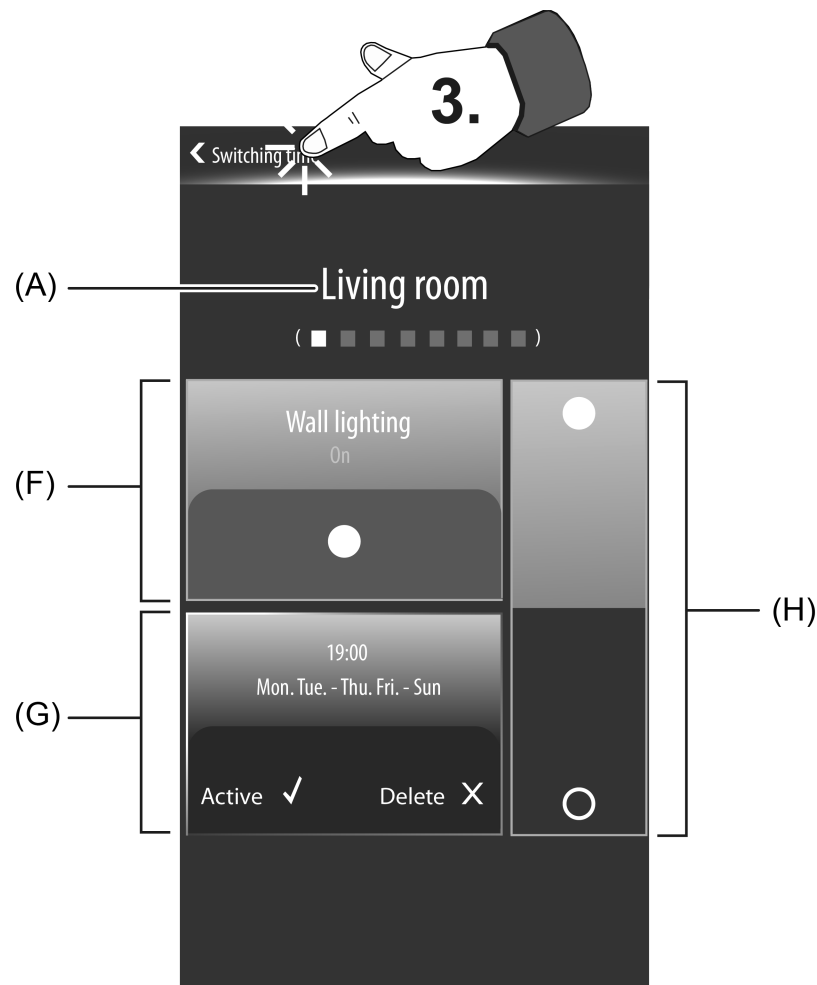

Figure 111: Example of a submenu for the configuration of a switching time (here: Channel function Switching)
If you touch a sensor surface with your finger in the overview of all switching times, the device branches to the submenu of the switching time that was selected. The submenu can be used to change, activate, deactivate or delete switching times. The submenus of each switching time have different operating and display areas (figure 111).
On the bottom edge in the display area (G) of a switching time submenu, the "Delete" button is visible (figure 111). The delete mode of a switching time is selected by touching this button (Display: ✓). The switching time is first deleted, however, when the "Save ✓" icon in the status line of the submenu at the top edge of the display is pressed. The configurations for the switching time concerned are discarded and the allocation of channels are removed by the deletion.